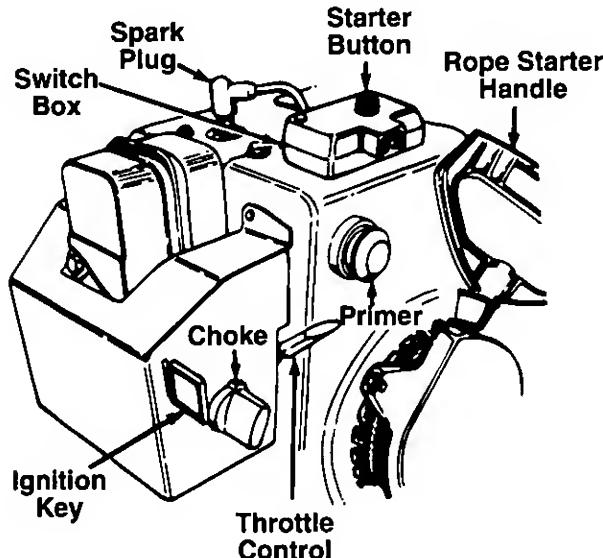

FIGURE 13.—Model 646F Shown
## THROTTLE CONTROL (See figure 13)
## SAFETY IGNITION SWITCH (See figure 13)
3. Move throttle control up to FAST position. Insert ignition key into slot. See figure 13. Be certain it snaps into place. **Do not turn key.**
6. Push primer button two or three times. See figure 13.
7. **Recoil Start:** Grasp starter handle (see figure 13) and pull rope out slowly, until it pulls slightly harder. Let rope rewind slowly. Pull starter handle rapidly. Do not allow handle to snap back. Allow it to rewind slowly while keeping a firm hold on the starter handle.